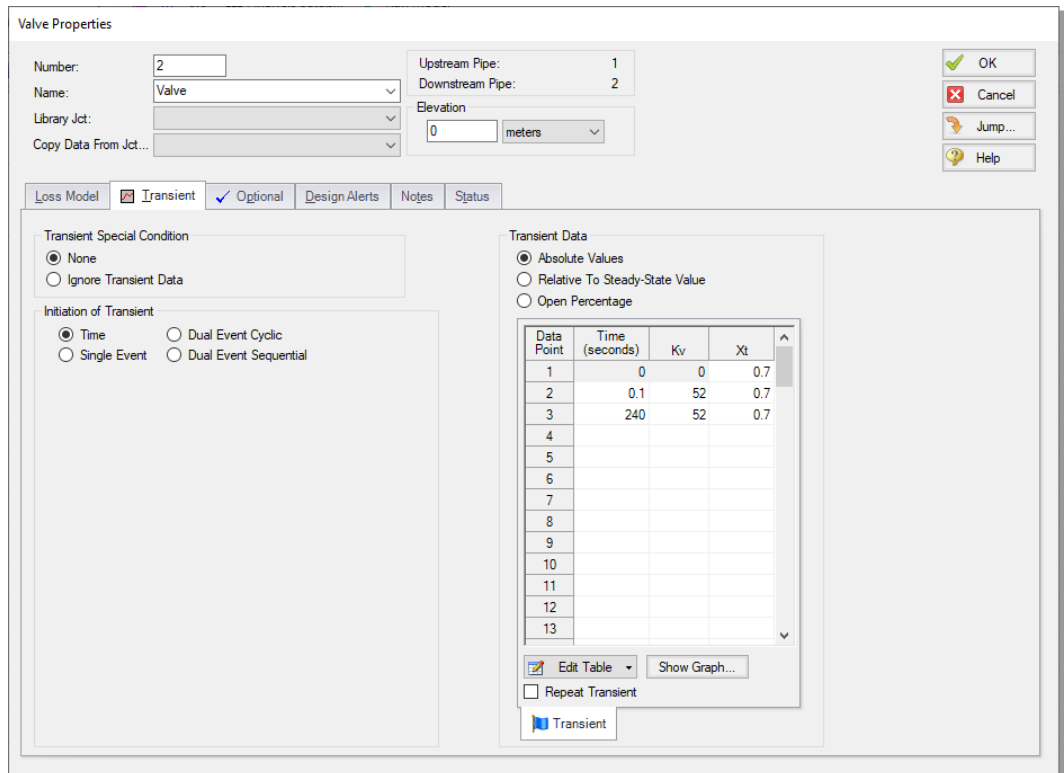

Figure 2.9 Transient input data for the J2 Valve
- **Click the Transient tab** and enter the following data (Figure 2.9).